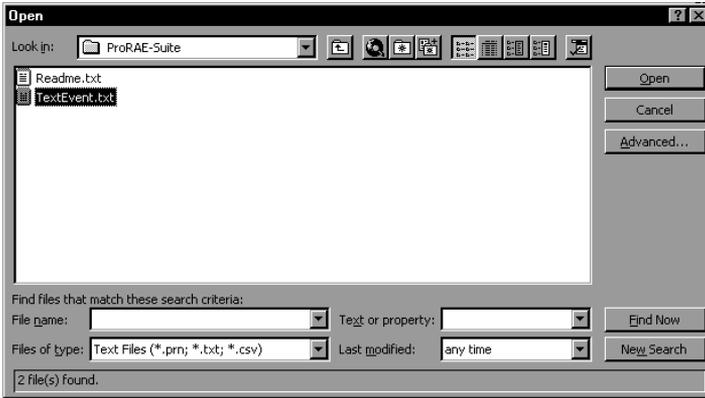

Figure C-2 Open Dialog Box
2. Click the **File->Open** menu item to open the **Open** dialog box, select the folder where the file **TextEvent.txt** resides, and select the **Files of type** as **Text Files**. Click to select the file **TextEvent.txt**, as shown in Figure C-2.